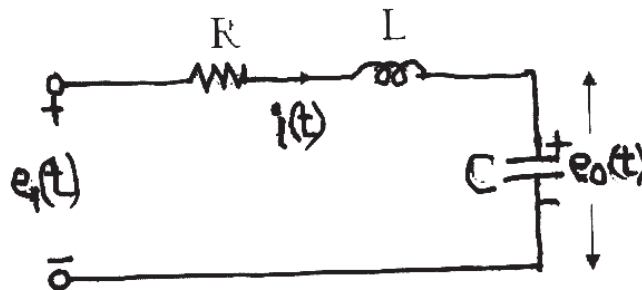

Fig. 1
- Q7)** a) An electrical system is represented using R, L and C as shown in the Fig. 1 Write the equations that describes the behaviour of this system in time domain and hence determine $E_o(s)/E_m(s)$. [6]